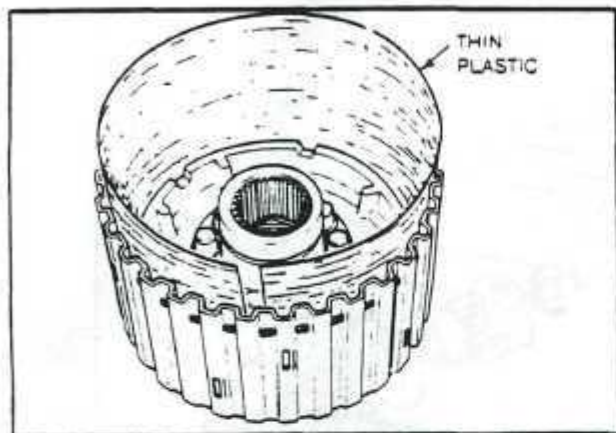

Fig. 58 C-1 PISTON INSTALLATION
3. Lubricate the inside of the clutch housing with transmission fluid and position a strip of thin plastic sheet in the clutch housing. Insert the piston into the housing and press into position by hand. Fig. 58